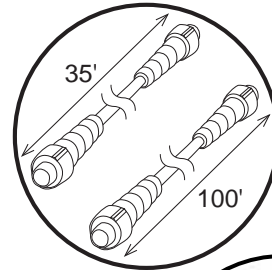
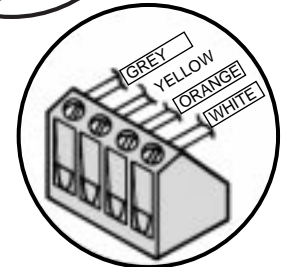

Figure 4
Figure 5
Figure 2 is an illustration of the control module circuit board highlighting important features which need to be taken into consideration prior to installation. Please refer to *Figures 4–8* on the opposite page for discussion on sensor cable installation, installation of external components to internal relay, supplying power to module, and low battery jumper positions. Please read the operating manual in its entirety prior to the installation of the Wil-Gard™ II.
Once the sensor cables have been installed within the pump as discussed on page 1, they must be connected to the control module via the sensor receptacle which is factory installed. (See Fig. 3.) The sensor cables are connected to the sensor receptacle by simply inserting the in-line plug into the receptacle, aligning the key notch, and turning the connector clockwise one-half turn until a click is heard. If the sensor cables extending from the pump are not long enough to reach the control module, the user can lengthen the wiring with 35' (10,67m) and 100' (30,48m) extension cords available from Wilden. These extension cords utilize the same connectors as the sensor cable and receptacle for compatibility and ease of use (see Fig. 4). In lieu of the Wilden extension cords, the user may supply his own wire (AWG 24) up to 2500 feet (762m). It is critical that the wires are kept separate and Wilden sensor cable is installed in the pump. It is important that all wiring connections are waterproof and secure. It may be necessary to run all wiring through conduit. The cable grip located on the bottom of the control module should be tightened so that the penetration is resistant to liquid intrusion. It is possible that the 6" sensor receptacle (P/N 65-8050-99) may need to be replaced. It is vital that the sensor wire pairs are kept separate and installed as per Figure 5.
- 6" wire receptacle (P/N 65-8050-99) is not connected correctly to the control module terminal block (refer to page 3, Fig. 4)